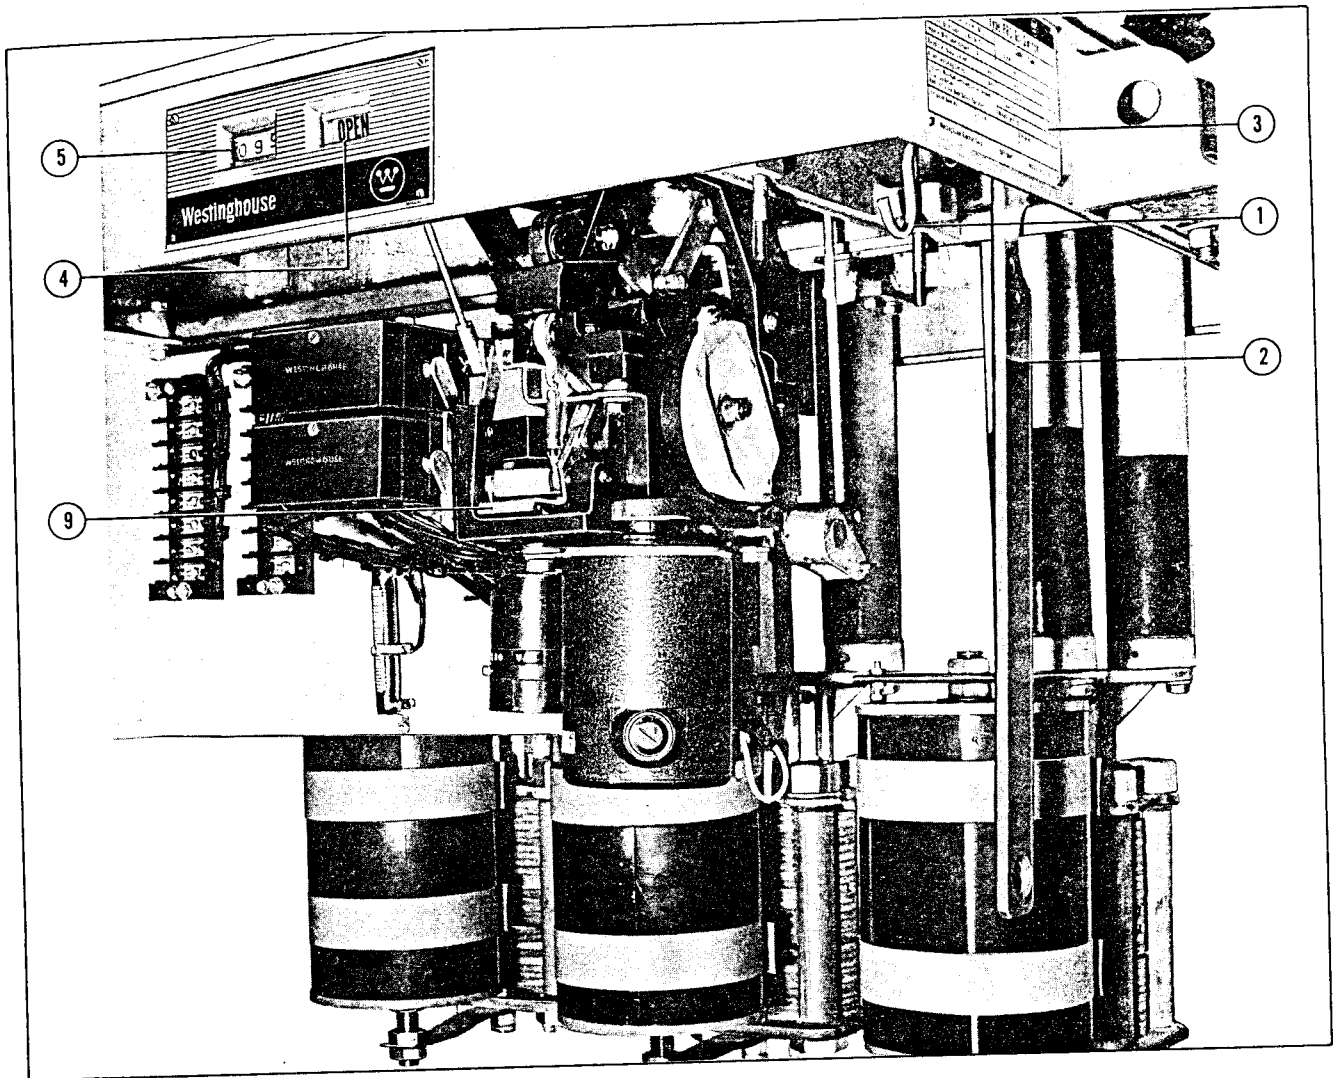

Fig. 9. Mechanism Cabinet--Right Side View
The "green" trip handle (Figure 9, Item 1) is linked to the operating mechanism and protected by the top casting. A downward pull trips the switch. This handle cannot be used for closing.
The "red" closing handle (Figure 9, Item 2) engages with the operating shaft. An upward push closes the main contacts. This handle cannot be used for tripping and may be removed if safety requirements dictate.
Nameplates (Figure 9, Item 3) located on the top casting give rating data with style and shop order numbers.
The red and green target of the position indicator (Figure 9, Item 4) is marked "CLOSE" and "OPEN" to show contact position.
Upon tripping, the operating counter (Figure 9, Item 5) advances 1/2 of a full turn, then the final 1/2 turn during reclosing . . . thus one count equals one complete tripping and reclosing operation. The 1/2 position also serves as an additional indication the contacts are open.
With the manual operating handle, close . . . then trip the switch. To close, pull forward and upward on the long "red" closing lever at the right side of the switch. To trip, pull down lightly on the small "green" tripping lever. The unit may also be tripped by pressing lightly on the manual tripping lever extension (Figure 9, Item 9) just above and in front of the operating motor. Each operation should advance the counter and operate the position indicator.
The "green" trip handle (Figure 9, Item 1) is linked to the operating mechanism by a mechanical trip and close transverse shaft (20) running behind the motor. Connected to this rod are the manual closing operating handle roller assembly (17), the manual tripping bar (18).
This is accomplished by pulling upward on the "red" closing handle (Figure 9, Item 2). The manual closing handle is linked to the operating mechanism by the manual trip and close transverse shaft (20) running behind the motor. As the closing handle is moved, the manual closing operating handle roller assembly (17) is raised to come in contact with the manual closing link (16). Raising this link, elevates the closing link (7) to its closed position.